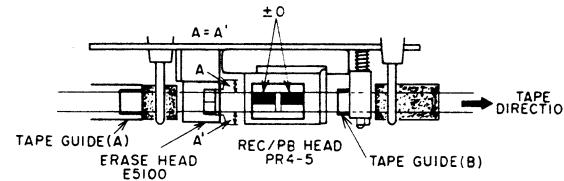

Fig. 6-2
- 2) Adjust the tape guide (A) so that the parts of the erase head coming out of both sides of the tape (A and A' in Fig. 6-2 will be equal. For the adjustment, use the adjustment nut (A).
- 3) Adjust the tape guide (B) so that the tape runs smoothly and is not hitched by the tape guide. For the adjustment, use the adjustment nut (B).
- 4) After adjustment, paint-lock the adjustment nuts (A) and (B).